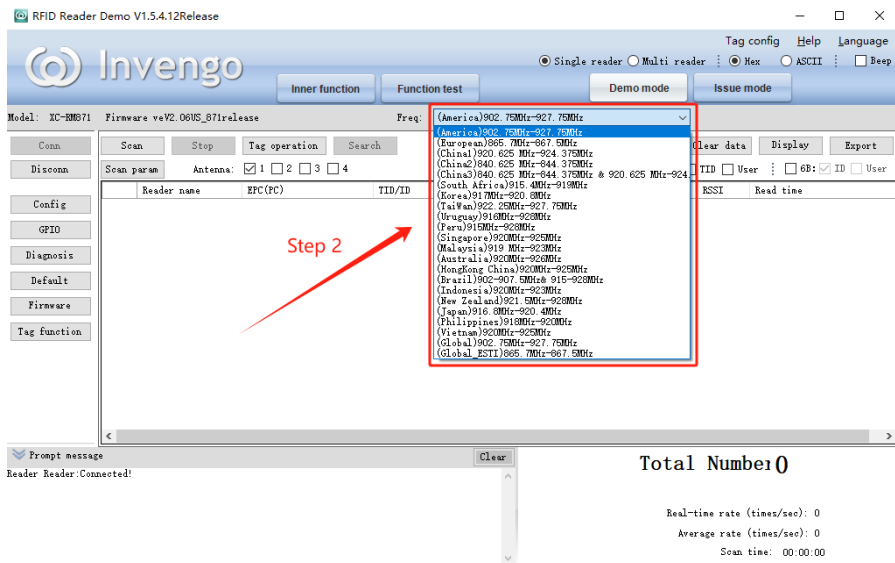

Figure 5-10 Frequency Band Setting Diagram 2
- 2) As shown in Figure 5-10, select the frequency band that complies with the regulations of the region where the device is located.